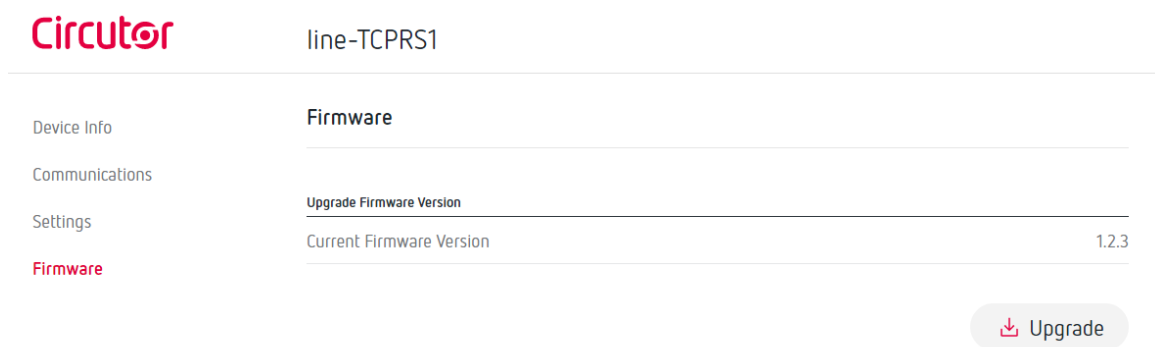

Figure 39: Website: Firmware.
- ✓ On the **Firmware** screen, update the device's firmware (Figure 39).